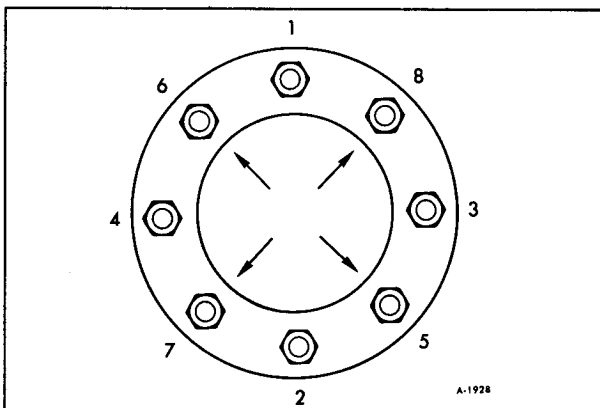

Figure 8
16. Torque wheel nuts to 250 ft. lbs. in sequence as shown in figure 8.